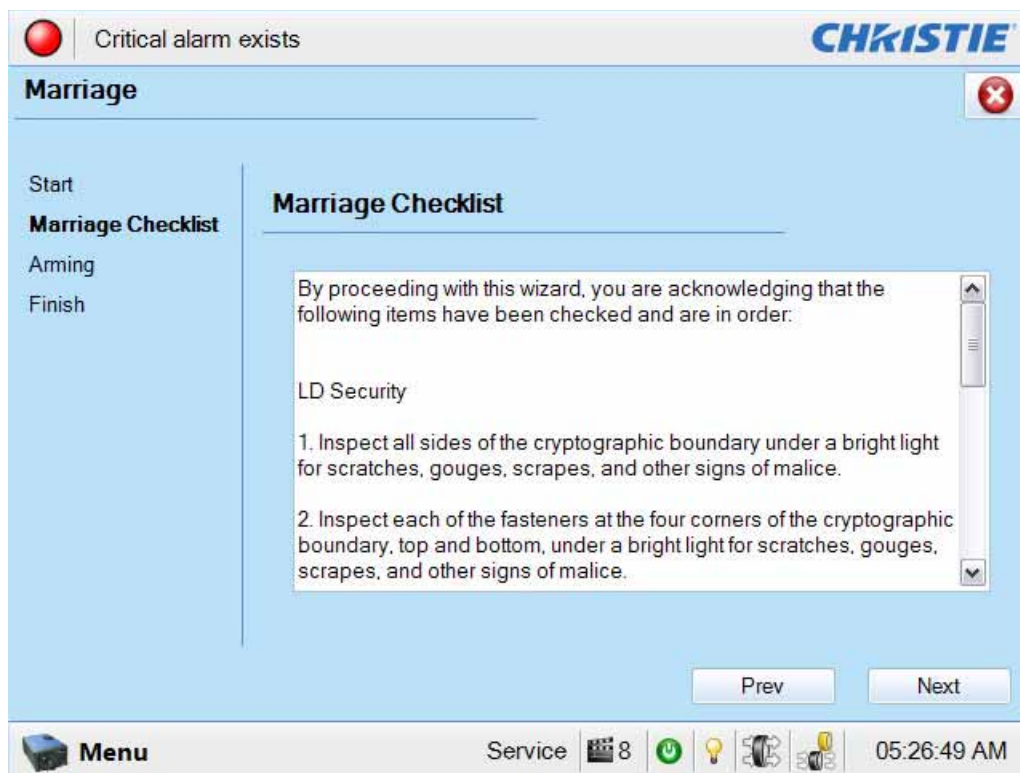
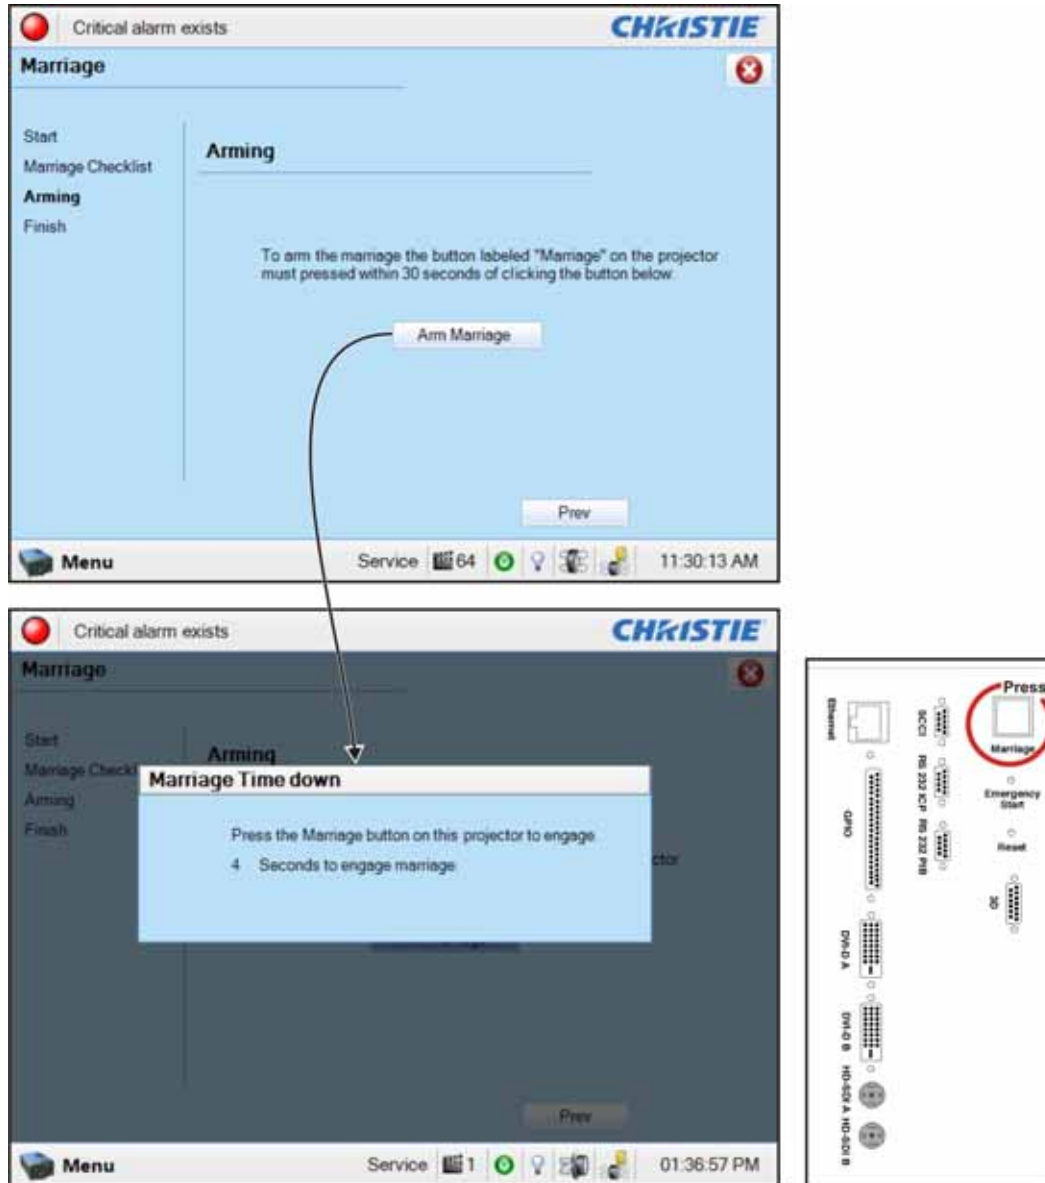

Figure 3-6 Administrator Setup: Marriage Checklist Window
Figure 3-7 Press Marriage Button on PI Board after Clicking Arm Marriage Button
Marriage is the engaging of the DCI physical interlocks that enable the display of secured materials. The **Marriage** window begins a series of panels that guides you through the sequence of steps required to engage the projector's married condition. The left column of the **Marriage** window shows which state you're currently at in the marriage process (**Figure 3-6**). Click the **Next/Prev** buttons to navigate the series of steps.
2. In the **Marriage Checklist** window (**Figure 3-6**), the wizard checks that all tamper switches are secure and presents a list of items that you must check to ensure the projector is secure before proceeding. Click the **Next** button to proceed to the **Arming** window.
- In the **Arming** window, click the **Arm Marriage** button (Figure 3-6). A 30 second count-down timer begins (Figure 3-7). The LED in the **Marriage** button on the PI Board will flash green during this count-down. You **MUST** press the **Marriage** button on the PIB within this 30 second window in order for the marriage to take effect. When the **Marriage** button is pressed, the LED button will change to a solid green to indicate a successful marriage.